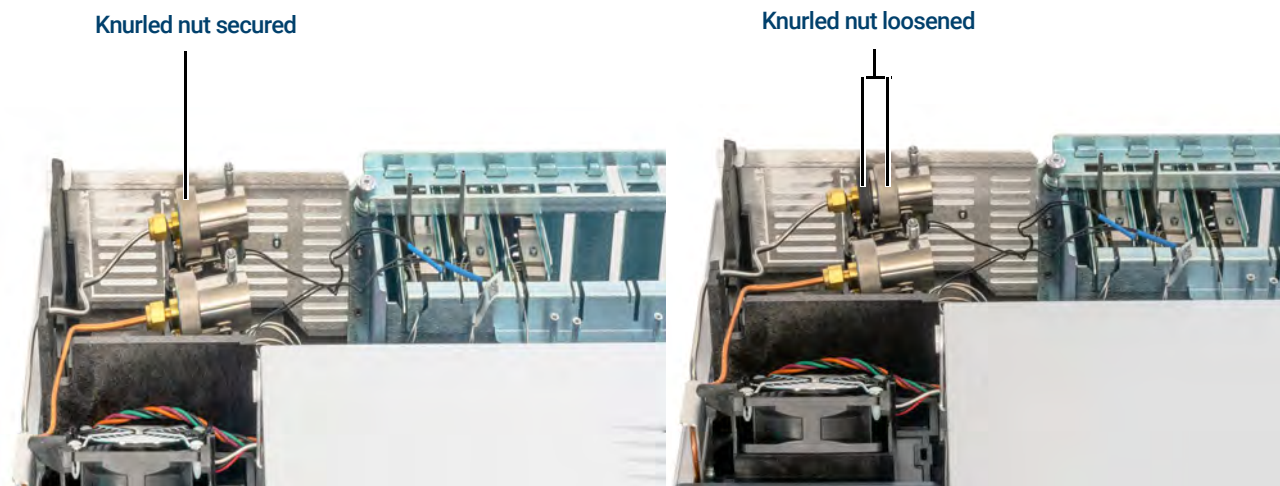

Figure 30. Loosen knurled nut
- 4 Completely loosen the knurled nut that secures the split vent trap in place as shown in **Figure 30**.